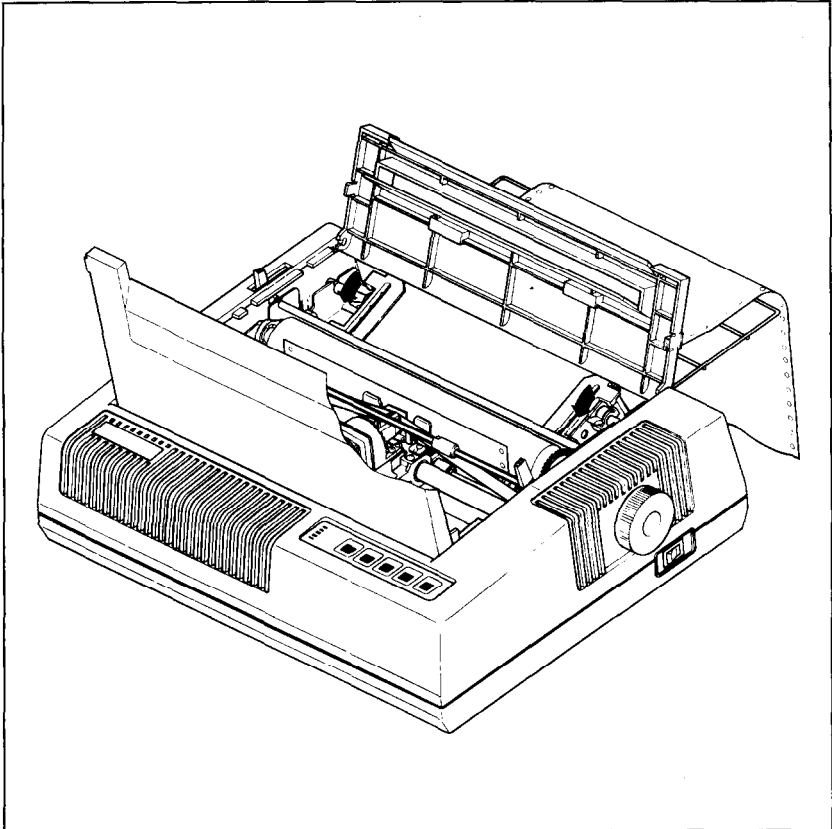

Figure 1-8. With the tractors in place, you're ready to close the covers and advance the paper.
7. Bring the paper up from the back, over the wire guide, and into the back of the printer. When the holes in the paper fit snugly over the nubby teeth in both sprockets, close the tractor covers and snap the clamp levers back into their locked positions (Figure 1-8).